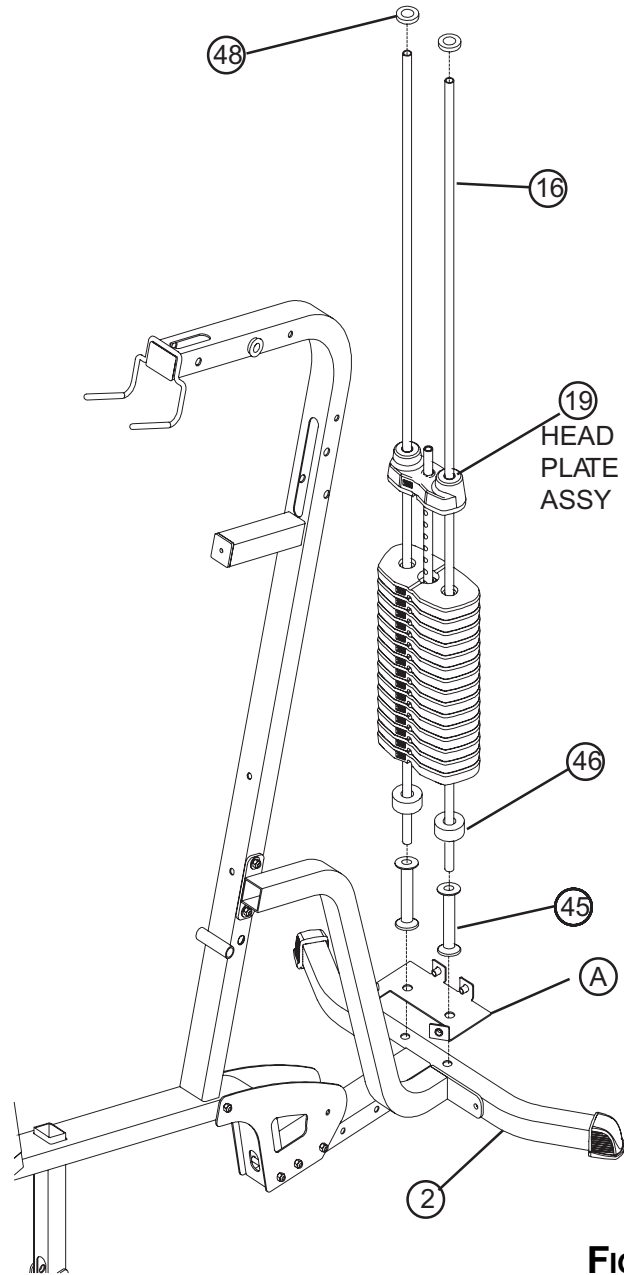

FIGURE 4
- Place the two GUIDE RODS (16) through the BOTTOM SHROUD BRACKET (A) (FOUND IN THE SHROUD KIT BOX) into the BASE (2), as shown in FIGURE 4.